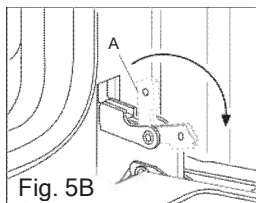

Fig. 5B
- 2 flip the hinge hooks "A" outwards (see Fig. 5B).